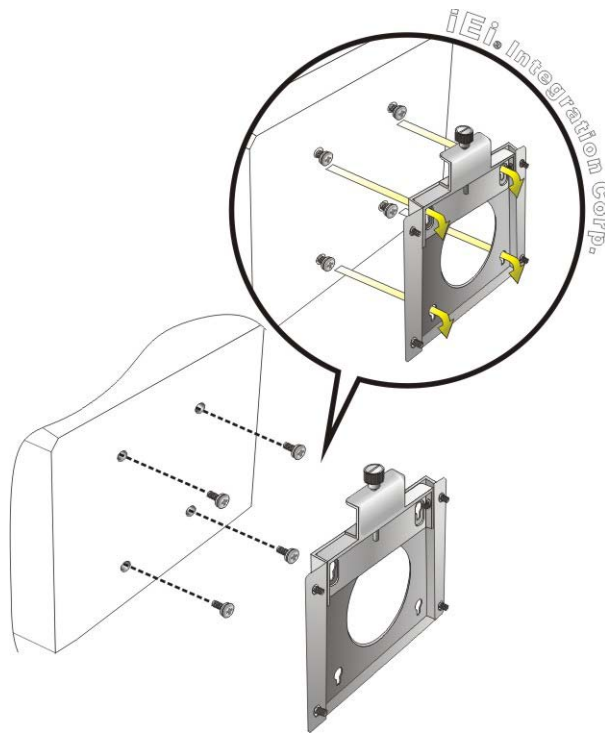

Figure 3-8: Chassis Support Screws
- Step 6:** Insert the four monitor mounting screws provided in the wall mounting kit into the four screw holes on the rear panel of the flat panel PC and tighten until the screw shank is secured against the rear panel (Figure 3-8).
- Step 8:** Carefully insert the screws through the holes and gently pull the monitor downwards until the monitor rests securely in the slotted holes (Figure 3-8). Ensure that all four of the mounting screws fit snugly into their respective slotted holes.